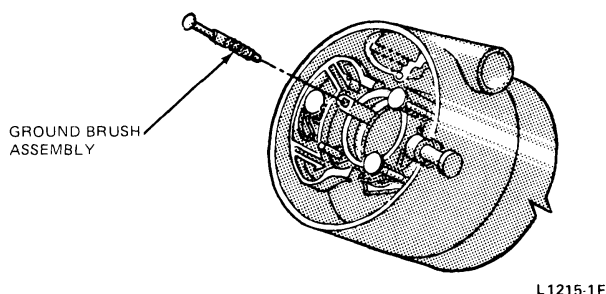

FIG. 4 Ground Brush Installation
2. Snap the brush assembly out of the turn signal switch (Fig. 4).